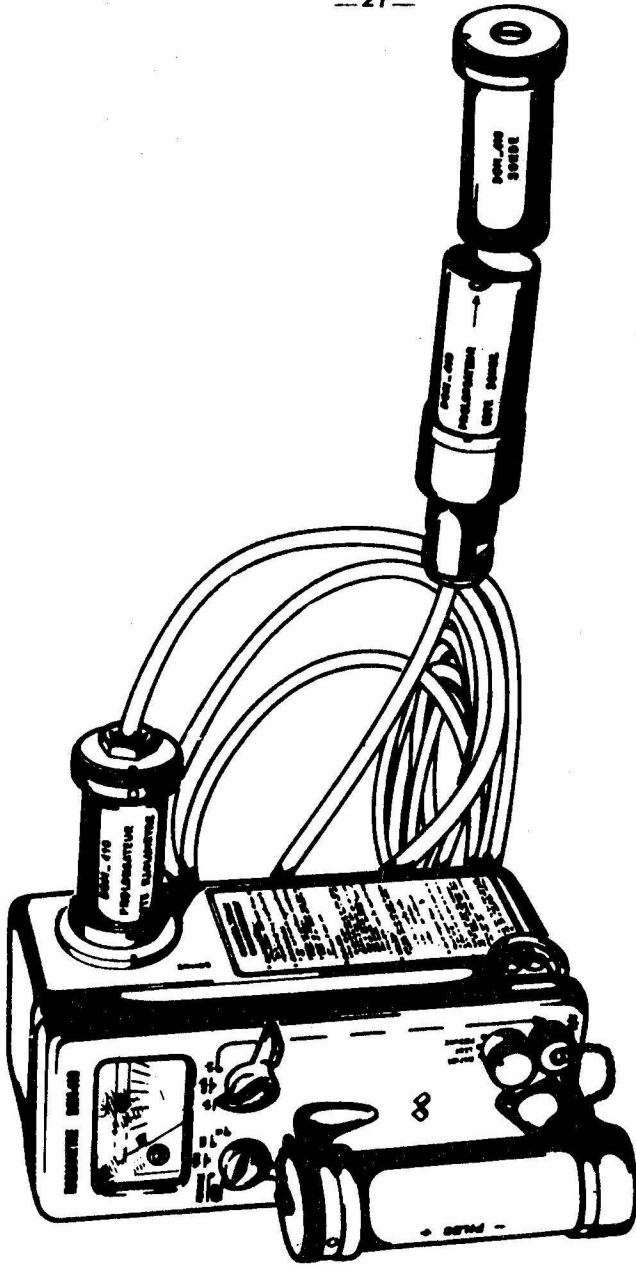

Fig. 6 — DOM 410 RADIATION METER
- Remove the gamma probe from its housing and insert it in the external probe casing marked "COTE SONDE" (PROBE SIDE) so that the datum points engraved on the external probe casing and on the probe cap are facing each other (fig. 6).
- Insert the extension cable connector marked "COTE RADIOMETRE" (RADIATION METER SIDE) in its housing in the instrument body so that the connector and instrument body datum points are facing each other (fig. 6).